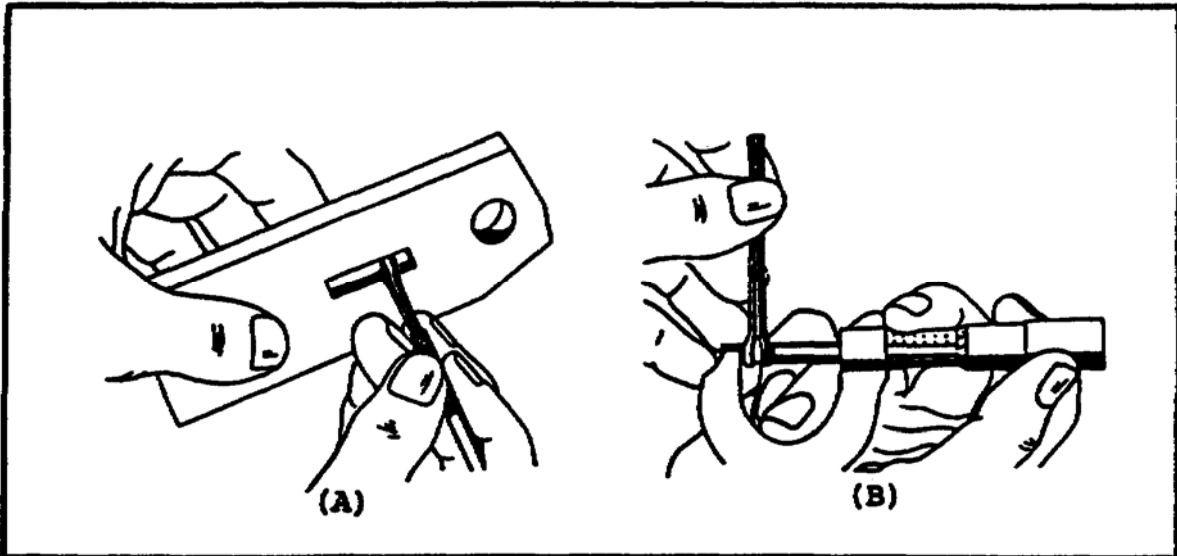

FIGURE 210. USING SMALL HOLE GAGE.
(2) The small hole gages perform the same function as telescoping gages, except that they are used in smaller work. Fit the ball-shaped point into the hole or slot as shown in figure 210, view A; expand the ball-shaped end by turning the screw at the end of the handle. Use a micrometer to gage the measurement, as shown in figure 210, view B.